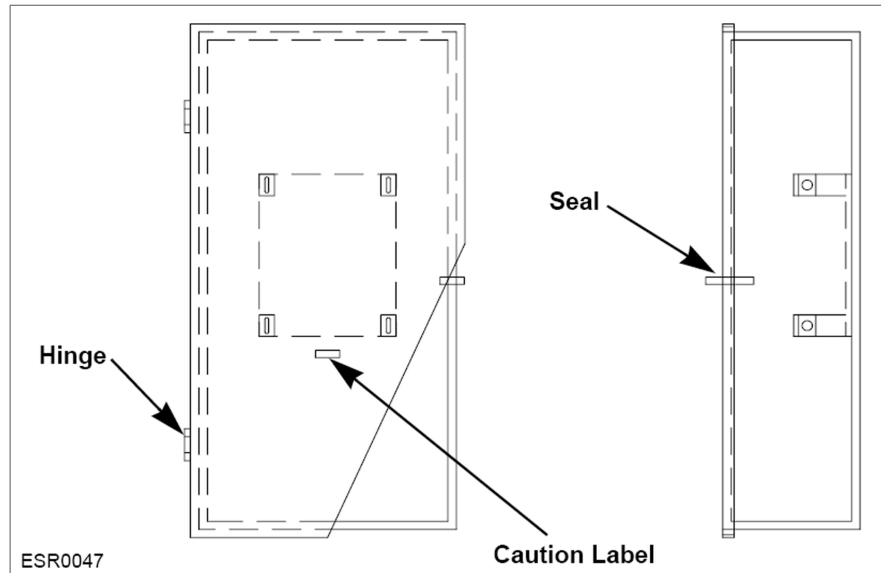

Figure 84: Current Transformer Cabinet, 800 A Maximum, 0 to 600 V (EUSERC 316, 317, 318)
Figure 84 shows a current transformer (CT) cabinet, 800 A maximum and 0 to 600 V (EUSERC 316, 317, and 318). **Table 25** shows the minimum dimensions of a CT cabinet.